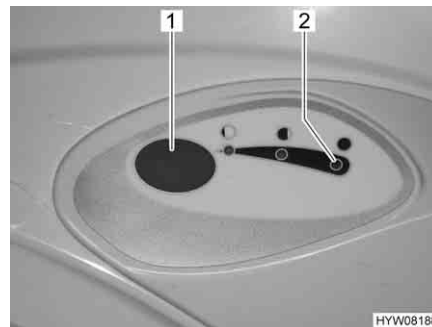

Fig. 248 Flush button/indicator lamp
- For flushing, press the blue flush button (Fig. 248,1).
The indicator lamp (Fig. 248,2) goes on whenever the sewage tank has to be emptied.